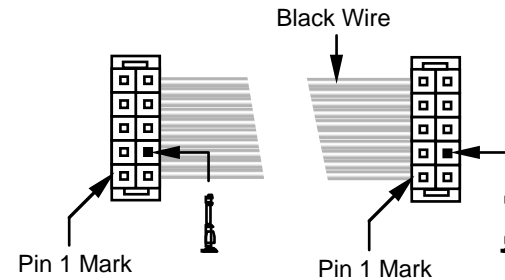

Figure 13
- Locate the pre-assembled ribbon cable. Lay the cable flat as shown in Figure 13, with the black wire at the top and the connector holes facing up.